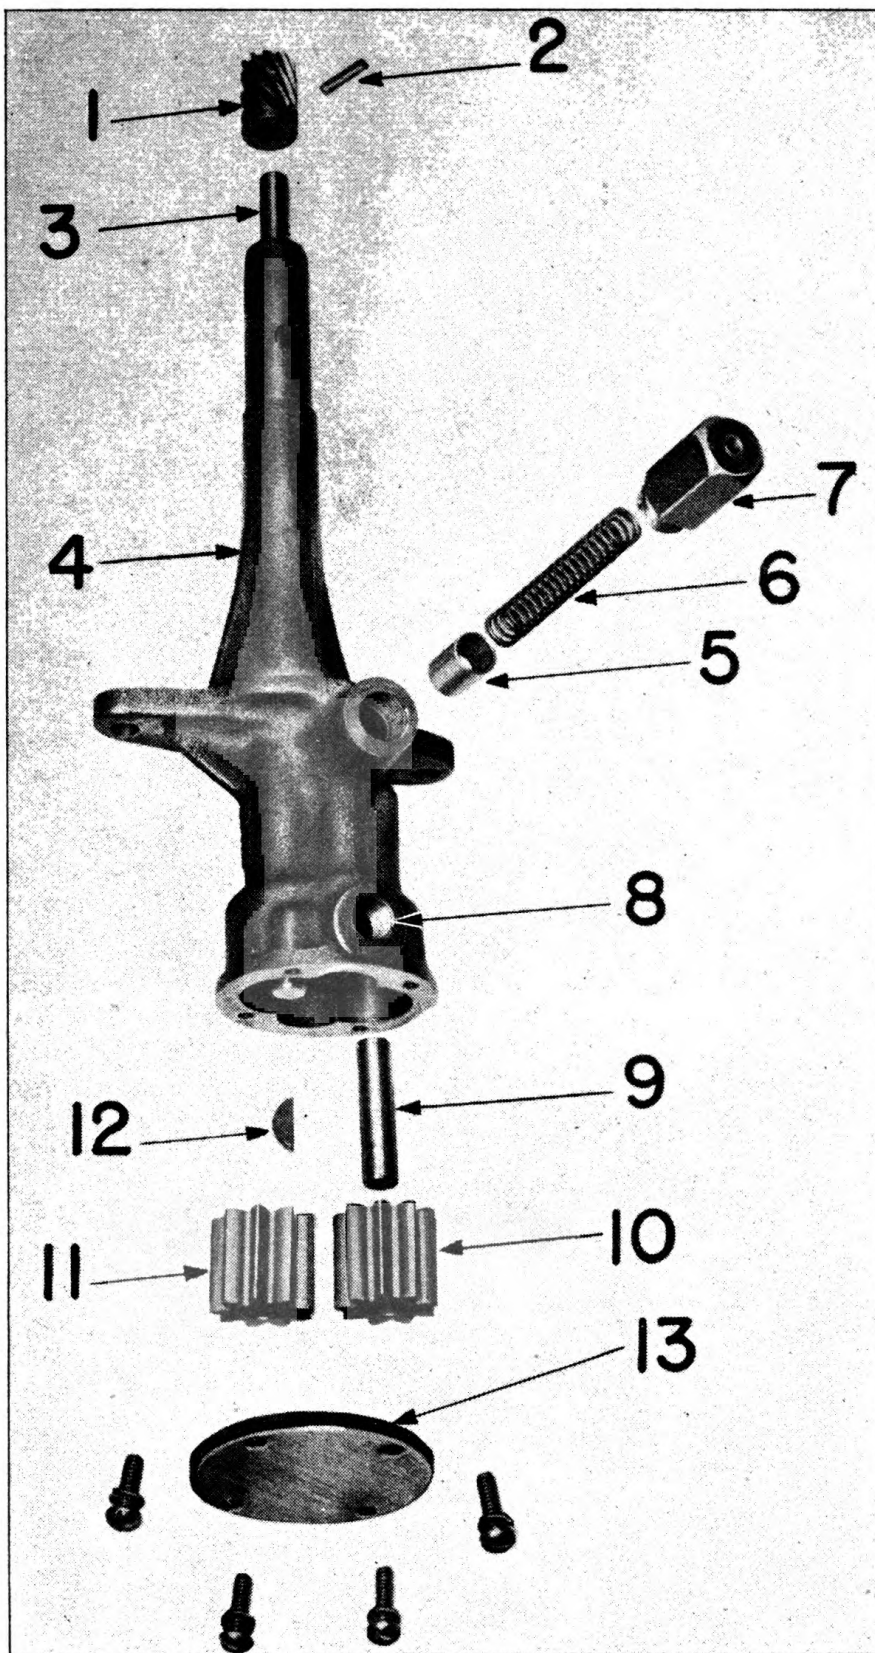

Fig. 27. Disassembled View of the Oil Pump
A non-adjustable pressure relief valve is located in the side of the pump body. Fig. 27. The valve by-passes the oil in cases where oil passages are plugged or the oil too heavy or too thin. These conditions will be indicated on the oil pressure gauge. This valve is set to register 25 to 30 pounds on the oil pressure gauge Fig. 5 when the oil and bearings are in good condition. The pressure will gradually become less as the engine is used, but it should never be allowed to drop below 15 pounds at normal engine speed without investigating the cause and correcting it.
To disassemble the oil pump, refer to Fig. 27 and drive out pin (2) from oil pump shaft and pull off gear (1).